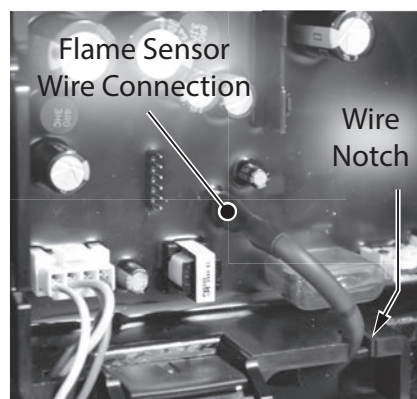

Figure 39 - Disconnect flame sensor wire
**4** Disconnect the flame sensor wire (blade style connector) from control board panel as shown in Figure 39. Notice the wire notch in the control board panel for proper routing of the flame sensor wire during reinstallation.
**10** Route the flame sensor wire under the control board panel and through the notch as shown in Figure 39. This will help keep wire in place.
**12** Connect the flame sensor wire to control board panel as shown in Figure 39.